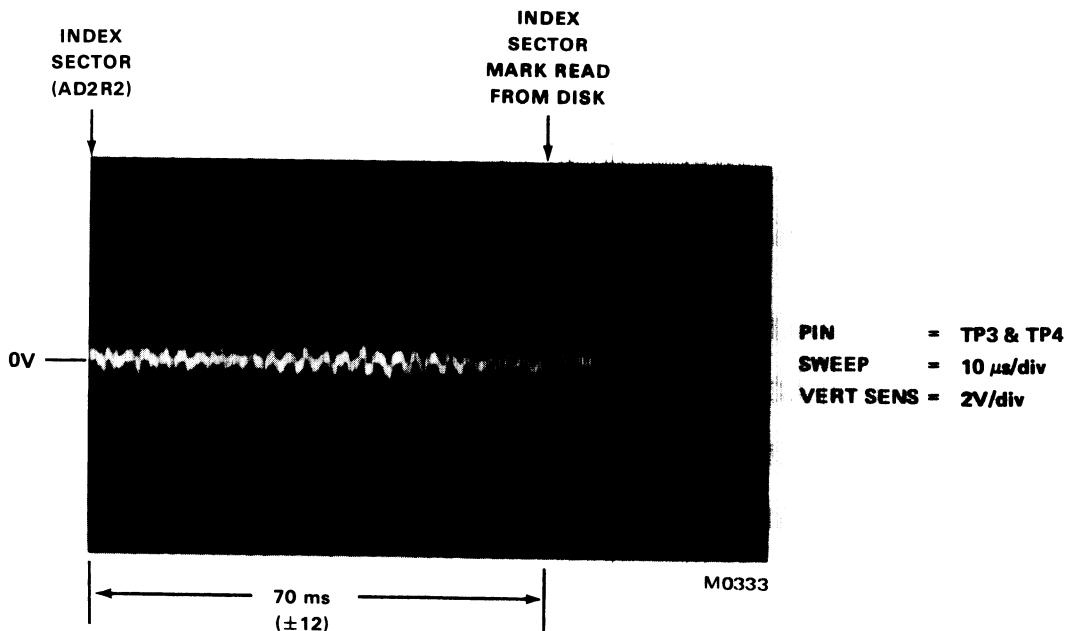

Figure 5-25 Index/Sector Waveform
11. Expand the sweep time to 10 μ s/div and check that the single pulse occurs $70 \pm 12 \mu$ s from the start of the sweep (Figure 5-25).